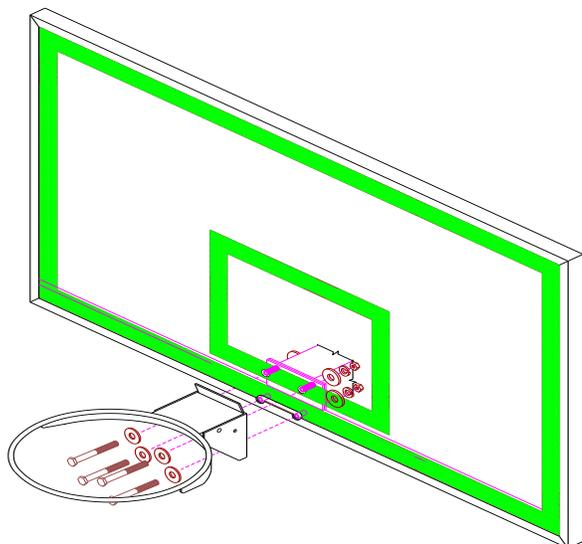

Figure 3
4. Mount the *Breakaway Goal* (L) and the *Backboard* (J) using $3/8'' \times 4''$ *Hex Bolts* (D) through the *Breakaway Goal* (L) and the *Backboard* (J) and the holes in the extension arm mounting plate and installing $3/8''$ flat washers, lock washers, and hex nuts that are included in the *Breakaway Goal Hardware* (M). See Figure 3. **Leave hardware finger tight only.**